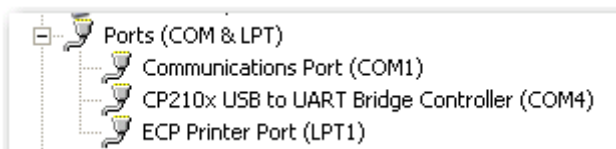

Figure 2-10 • Determining the USB Serial Port's COM Port
4. Determine the COM port assigned to the USB interface. Open the Windows Control Panel and double-click the **System** icon. Click the **Hardware** tab and click the **Device Manager** button. Expand the **Ports (Com & LPT)** item in the Device Manager. Look for the CP2102 USB to UART Bridge Controller in the list of ports. The COM port in parentheses identifies the COM port assigned to this device (Figure 2-10). If you do not see CP2102, you need to install the CP210x_Drivers driver. Refer to "Installing the M1AFS-ADV-DEV-KIT Board USB Serial Driver" section on page B-31 for more information.